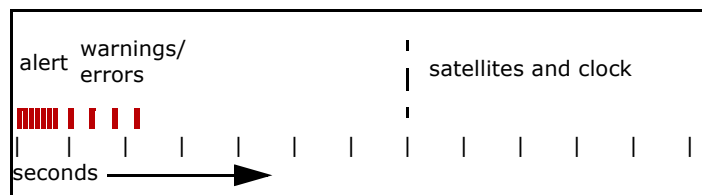

Fig. 2-27: Pattern of flashes indicating errors and warnings.
- If an abnormal condition exists, the LED will flicker rapidly for 350ms as an alert, and will then flash from one to seven times, 50ms on, 350ms off (see Fig. 2-27). Table 2-1 explains the meaning of the number of flashes.